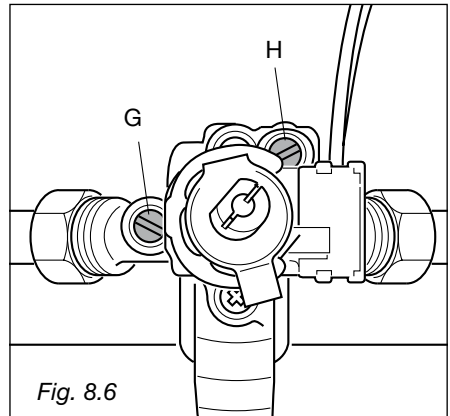

Fig. 8.6
- Using a screwdriver turn the screw **H** until the correct setting is obtained (fig. 8.6).
- Using a screwdriver turn the screw **G** until the correct setting is obtained (fig. 8.6).